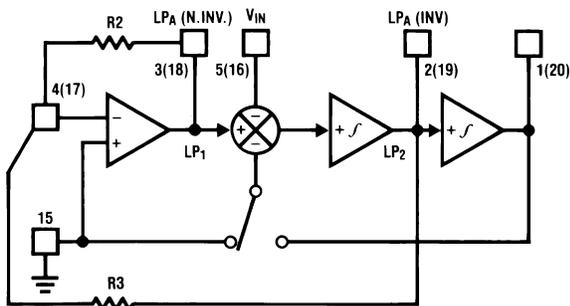

Figure 49. MODE 6b
8.4.1.10 MODE 6b: Single-Pole LP Filter (Inverting and Noninverting) (See Figure 49)
By connecting pin 12 to the appropriate DC voltage, the filter center frequency,  $f_0$ , can be made equal to either  $f_{CLK}/100$  or  $f_{CLK}/50$ .  $f_0$  can be very accurately set (within  $\pm 0.6\%$ ) by using a crystal clock oscillator, or can be easily varied over a wide frequency range by adjusting the clock frequency. If desired, the  $f_{CLK}/f_0$  ratio can be altered by external resistors as in Figure 43 through Figure 49. This is useful when high-order filters (greater than two) are to be realized by cascading the second-order sections. This allows each stage to be stagger tuned while using only one clock. The filter Q and gain are set by external resistor ratios.